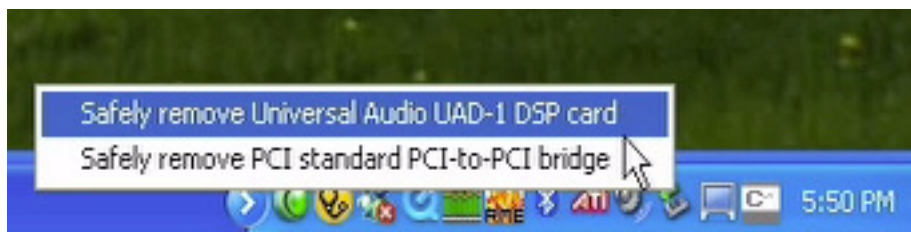

Figure 26. ExpressCard Power Down (Windows)
- (Windows) In the Windows Task Bar, click the Safely Remove Hardware icon, and select “Safely remove Universal Audio UAD-1 DSP card” (Figure 26 on page 126).